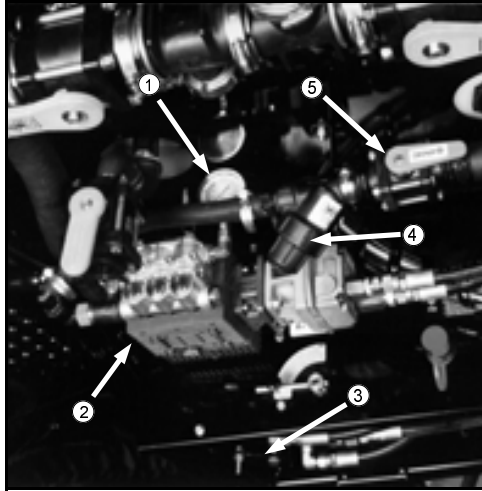
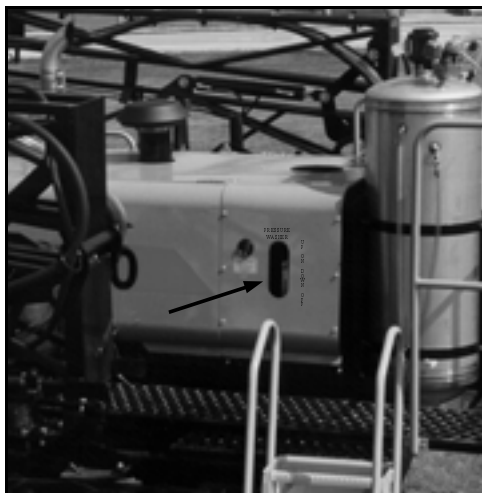

FIG 5.100
FIG 5.101
OPERATING – To operate the pressure washing system, leave the engine running between 1000 and 1200 RPM. Turn the parking brake on (see page 34). The rinse supply valve for the pressure washer (fig. 5.100, item 5) may remain open unless operating the solution tank rinse system, then you should close it as you open the rinse tank valve (see page 70). Activate the pressure washing pump (fig. 5.100, item 2) with valve handle in hydraulic sight gauge window (fig 5.101). The pressure washer “ON/OFF” handle has only approximately one half inch of travel.
In event of emergency, pump may be turned off from underneath the machine by pushing upward on the hydraulic flow divider shaft (fig. 5.100, item 3).
MAINTENANCE – Remove and inspect in-line filter (fig. 5.100, item 4) occasionally and clean it as required.